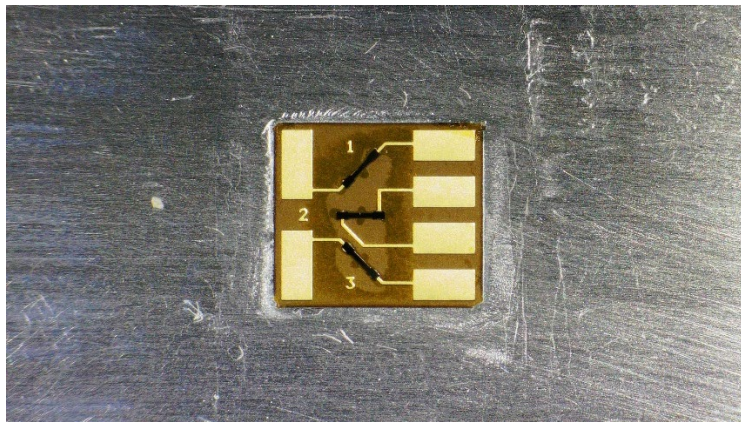

Figure B4 – Installed rosette.
- B.17 The completed installation should have terminal pad surfaces that are free of adhesive. See Figure B4.